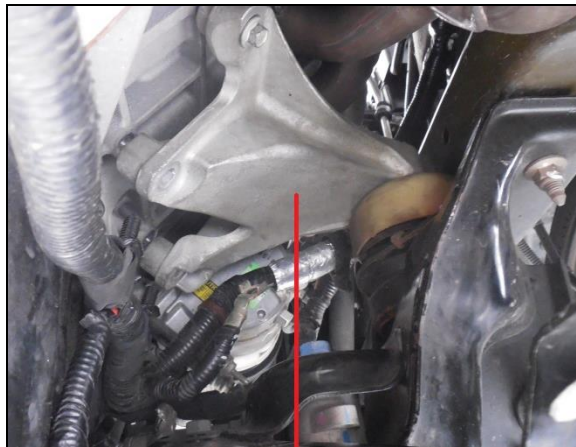

Figure 3
11. Repeat step 10 on the right side by removing the (x2) 13mm head bolts, (x2) 13mm head nuts, and (x1) 15mm head nut supporting the right side engine mount to the motor and chassis. See **Fig. 3**.